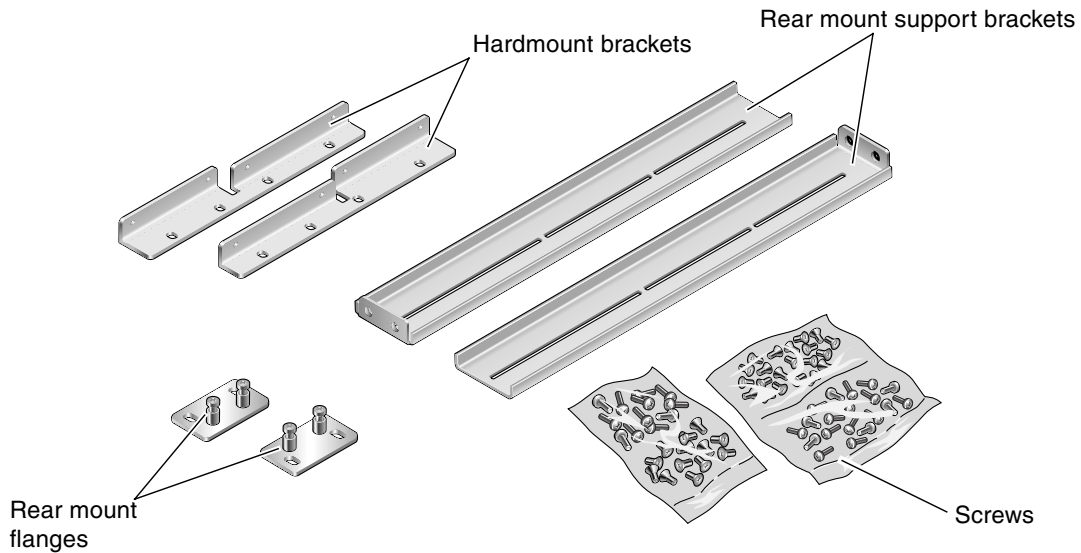

FIGURE 3-1 Contents of the Hardmount 19-Inch 4-Post Kit
1. Get the front hardmount brackets from the rack kit (FIGURE 3-1).
4. Get the two rear mount support brackets from the rack kit (FIGURE 3-1).
8. Get the two rear mount flanges from the rack kit (FIGURE 3-1).